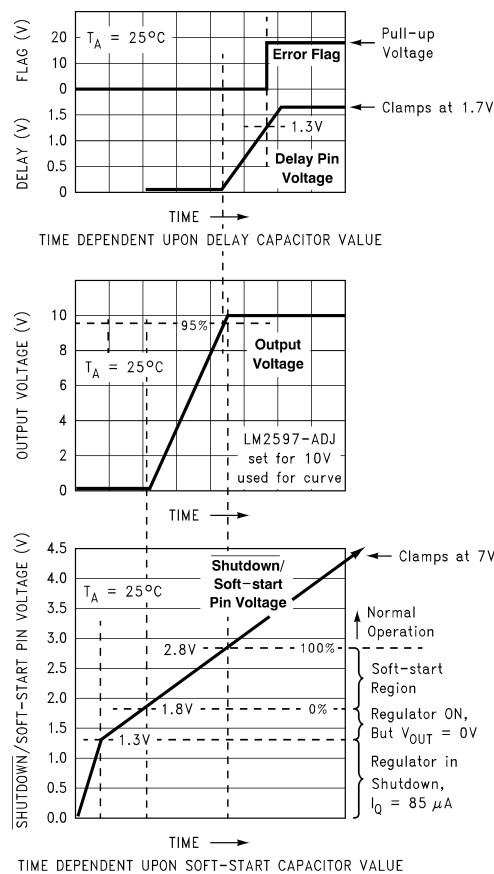
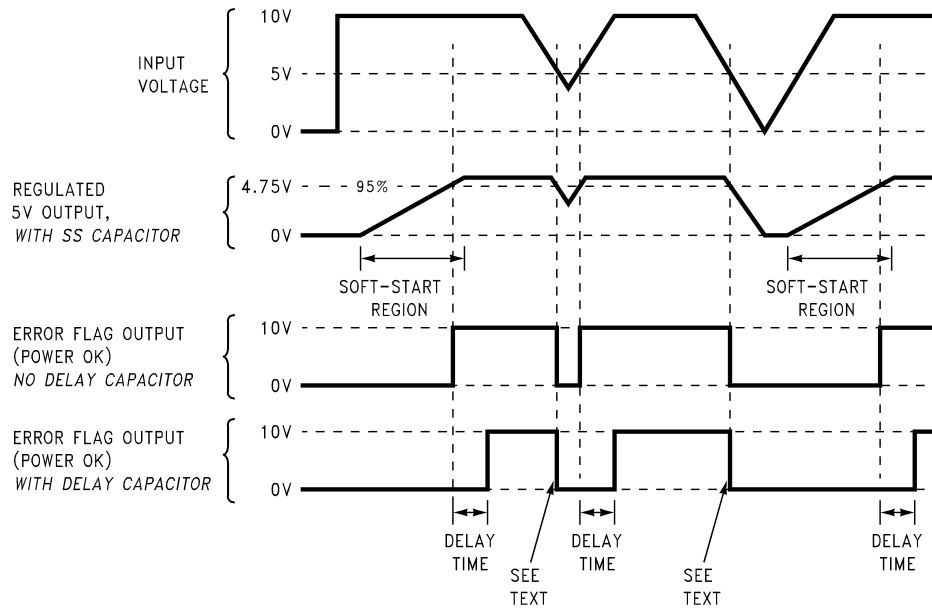

Figure 32. Soft-start, Delay, Error, Output
Figure 33. Timing Diagram for 5V Output
C_{SS} —A capacitor on this pin provides the regulator with a Soft-start feature (slow start-up). When the DC input voltage is first applied to the regulator, or when the Shutdown /Soft-start pin is allowed to go high, a constant current (approximately $5\ \mu A$) begins charging this capacitor). As the capacitor voltage rises, the regulator goes through four operating regions (See the bottom curve in Figure 32).
3. **Soft-start Region.** When the $\overline{SD}$ /SS pin voltage is between 1.8V and 2.8V (@ 25°C), the regulator is in a Soft-start condition. The switch (Pin 8) duty cycle initially starts out very low, with narrow pulses and gradually get wider as the capacitor $\overline{SD}$ /SS pin ramps up towards 2.8V. As the duty cycle increases, the output voltage also increases at a controlled ramp up. See the center curve in Figure 32. The input supply current requirement also starts out at a low level for the narrow pulses and ramp up in a controlled manner. This is a very useful feature in some switcher topologies that require large startup currents (such as the inverting configuration) which can load down the input power supply.
The lower curve shown in Figure 32 shows the Soft-start region from 0% to 100%. This is not the duty cycle percentage, but the output voltage percentage. Also, the Soft-start voltage range has a negative temperature coefficient associated with it. See the Soft-start curve in Electrical Characteristics.
C_{DELAY} —Provides delay for the error flag output. See the upper curve in Figure 32, and also refer to timing diagrams in Figure 33. A capacitor on this pin provides a time delay between the time the regulated output voltage (when it is increasing in value) reaches 95% of the nominal output voltage, and the time the error flag output goes high. A 3 μ A constant current from the delay pin charges the delay capacitor resulting in a voltage ramp. When this voltage reaches a threshold of approximately 1.3V, the open collector error flag output (or power OK) goes high. This signal can be used to indicate that the regulated output has reached the correct voltage and has stabilized.